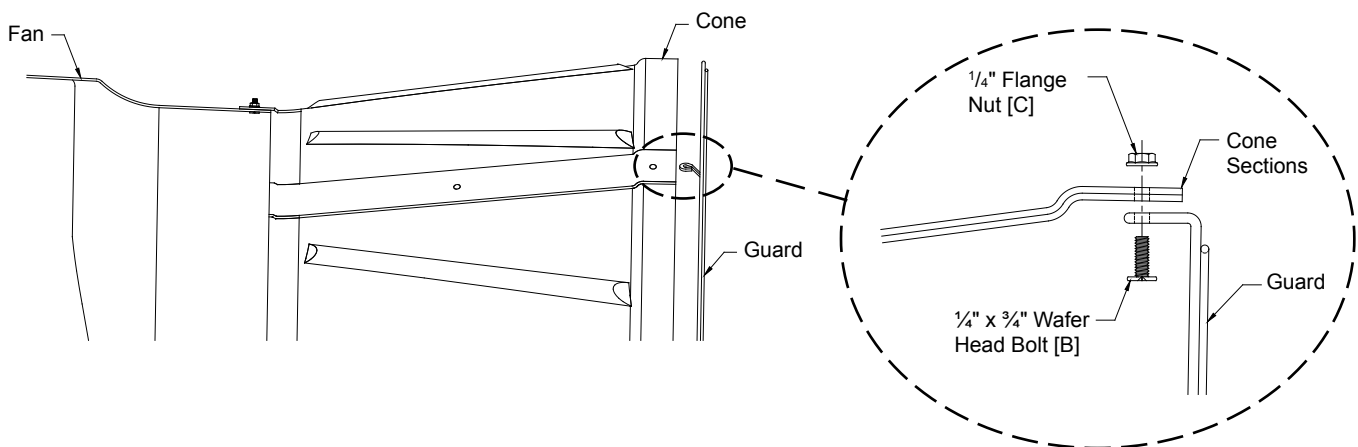

Figure 7A
Remove Fasteners [B] and [C] in outer holes. Insert guard into cone with the guard eyelets facing away from you. Make sure each eyelet lines up with a hole in the cone sections, and secure with the (4) Fasteners [B] and [C], previously removed. **DO NOT** tighten bolts at this time. **See Figure 7A, 7B.**